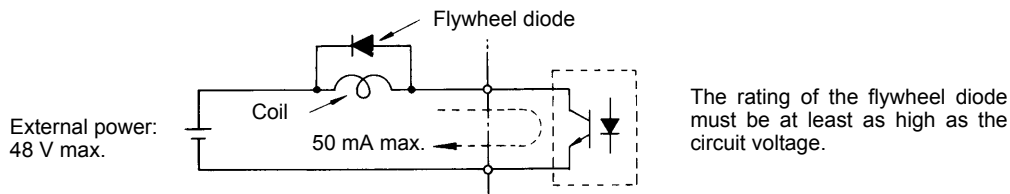

Fig 2.20 Flywheel Diode Connection
- * 2. When driving a reactive load, such as a relay coil, always insert a flywheel diode as shown in Fig 2.20.